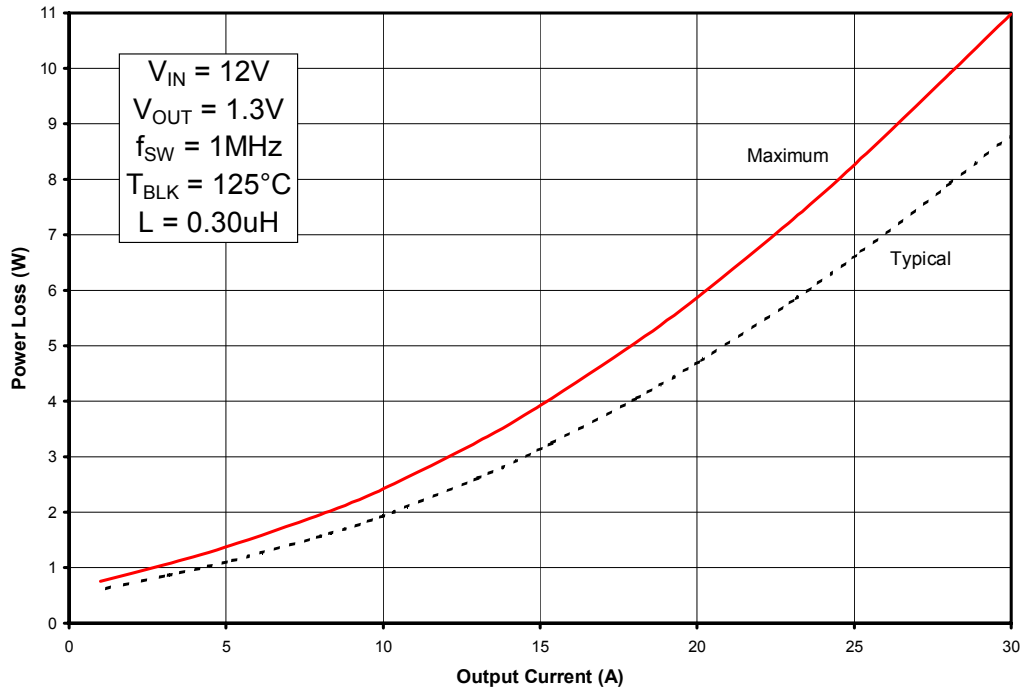
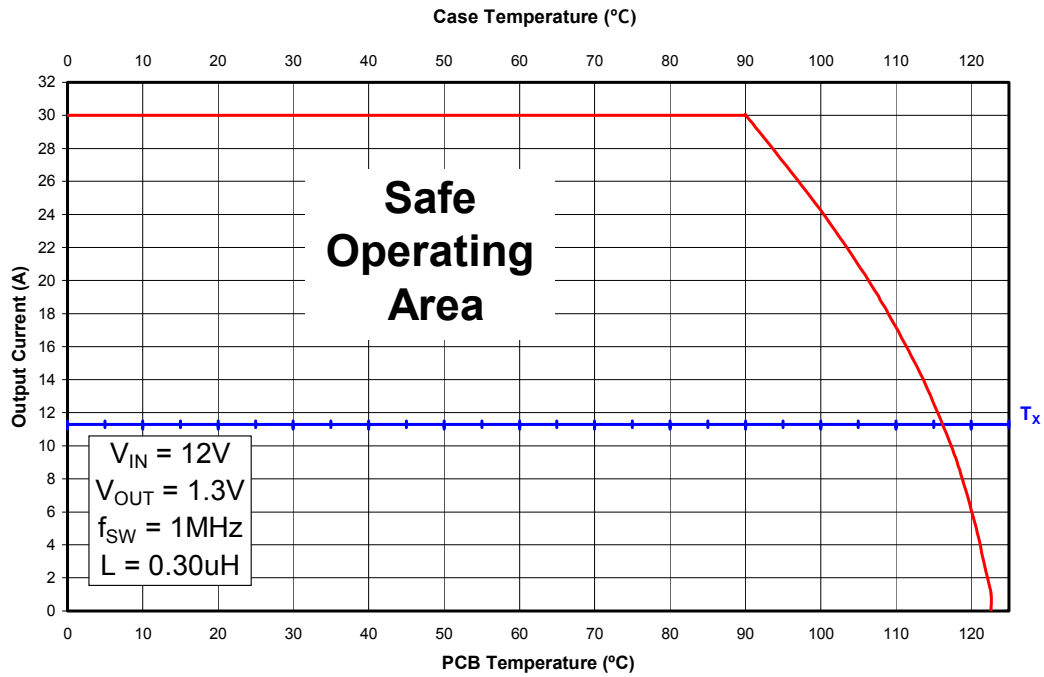
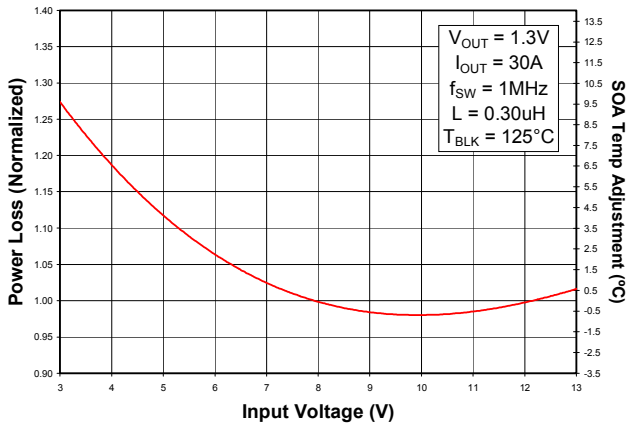

Fig. 1: Power Loss vs. Current
Fig. 2: Safe Operating Area (SOA) vs. T_{PCB} & T_{CASE}
Fig. 3: Normalized Power Loss vs. V_{IN}
To make adjustments to the power loss curves in Fig. 1, multiply the normalized value obtained from the curves in Figs. 3, 4, 5 or 6 by the value indicated on the power loss curve in Fig. 1. If multiple adjustments are required, multiply all of the normalized values together, then multiply that product by the value indicated on the power loss curve in Fig. 1. The resulting product is the final power loss based on all factors. See example no. 1.
To make adjustments to the SOA curve in Fig. 2, determine your maximum PCB Temp & Case Temp at the maximum operating current of each iP2002. Then, add the correction temperature from the normalized curves in Figs. 3, 4, 5 or 6 to the T_x axis intercept (see procedure no. 2 above) in Fig. 2. When multiple adjustments are required, add all of the temperatures together, then add the sum to the T_x axis intercept in Fig. 2. See example no. 2.
- (Fig. 1) Maximum power loss = 11W
- (Fig. 3) Normalized power loss for input voltage \approx 0.98
- (Fig. 3) Normalized SOA Temperature for input voltage $\approx -0.6^{\circ}\text{C}$